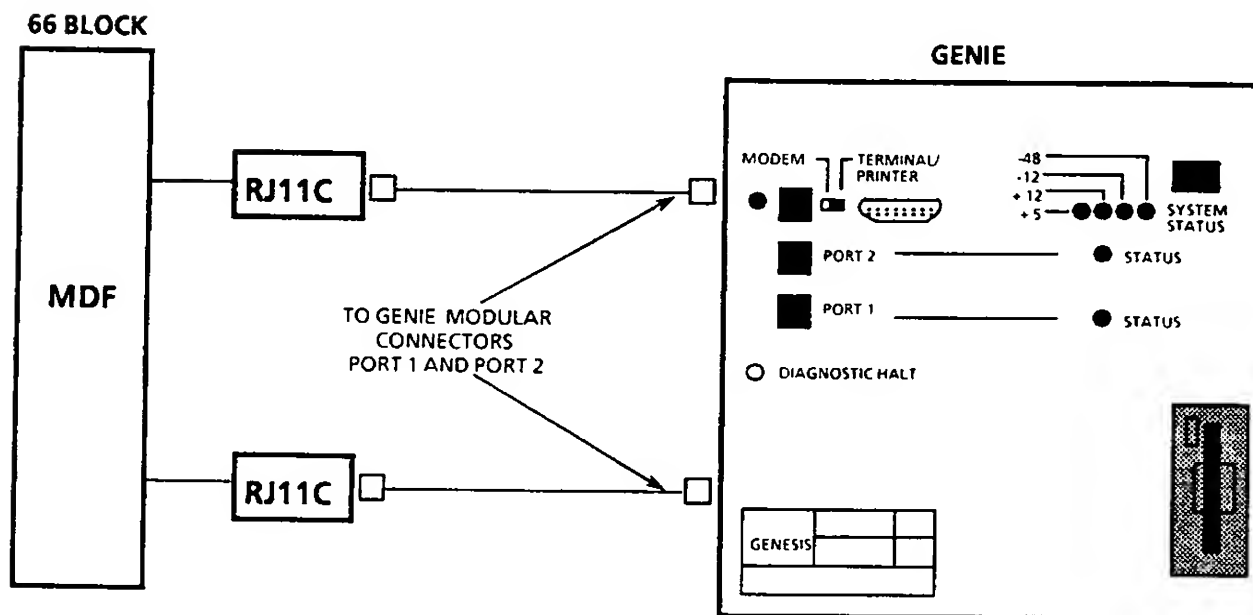

Figure 1. Genie Connection Block Diagram
- 4.1.2 The Genie Voice Mail System provides two ports (AIUs) for Voice Mail Access. These ports connect to two (of the four available) VMI-E extension positions. These VMI-E extensions should be cross-connected from the appropriate J block on the MDF and connected to an RJ11C connector to facilitate connection to the Genie using modular line cords (See Figure 1).
- 4.3.2 Connect the terminal to Genie RS232C cable connector using an RS232C null modem cable (pins 2 and 3 reversed) and ensure the switch is set to **TERMINAL/PRINTER** (See FIGURE 1).
- Remove Genie's top cover by removing four (4) screws (two on top and two on the bottom).
- Remove Genie's front cover (shown in Figure 1) by removing four (4) screws (two on top and two on the bottom) holding the cover in place and the two HEX screws securing the RS232C connector to the front cover.